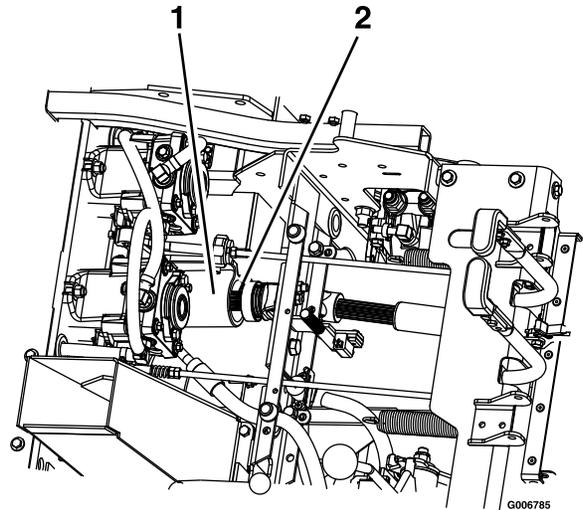

Figure 78
8. Unlatch the seat and disconnect the drive shaft using the quick coupler at the jackshaft (Figure 78).
4. Install the drive shaft onto the jackshaft (Figure 78).